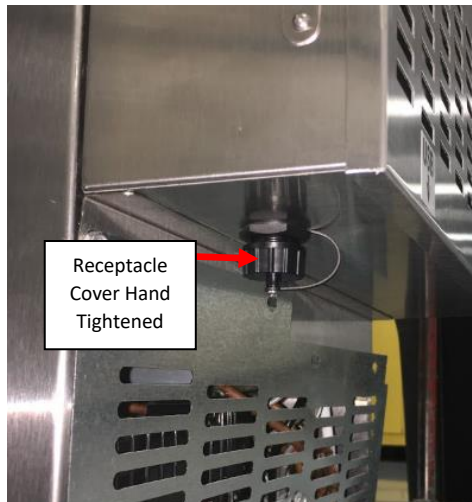

Figure L33: Receptacle Cover of the USB Receptacle x Plug hand tightened.
30. Hand tighten the Receptacle Cover over the Threaded End of the USB Receptacle x Plug. See Figure L33.